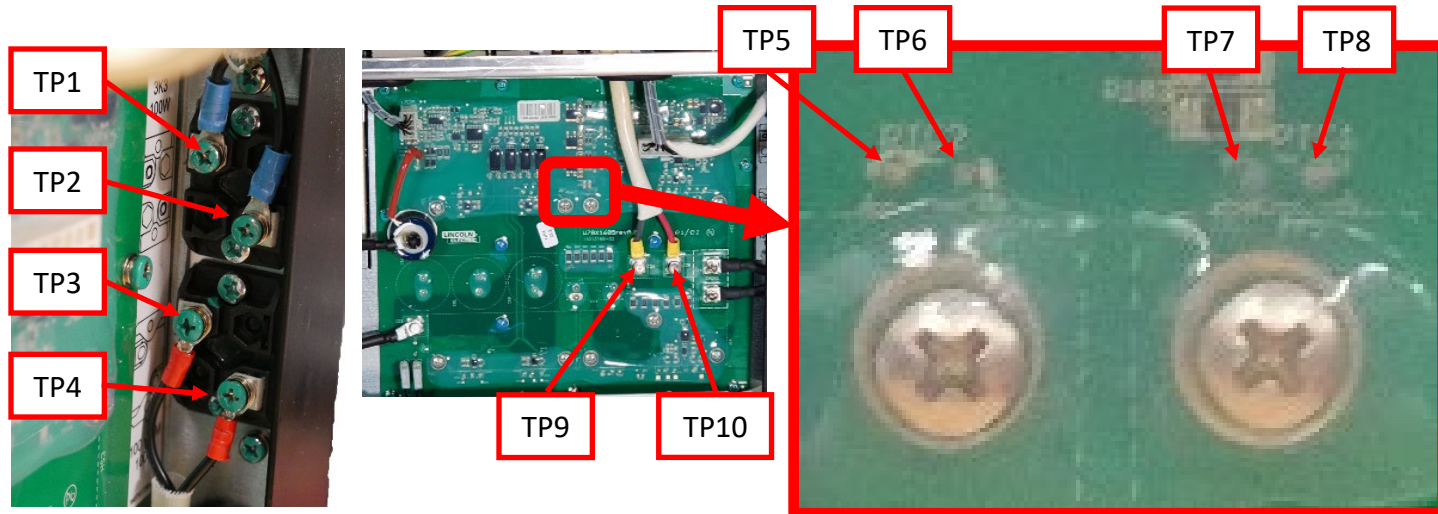

Figure F.3
A.2. Perform the static measurements in Test Table 1, refer to Figure F.3 for test point locations.